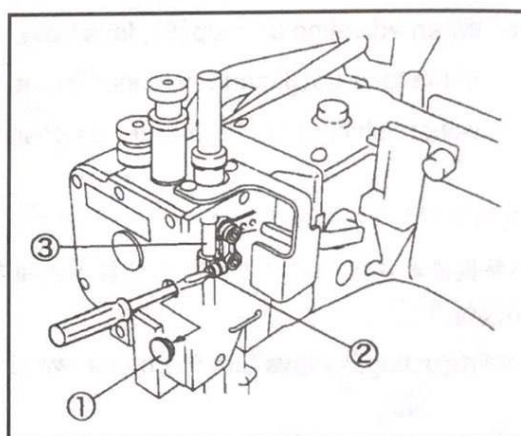
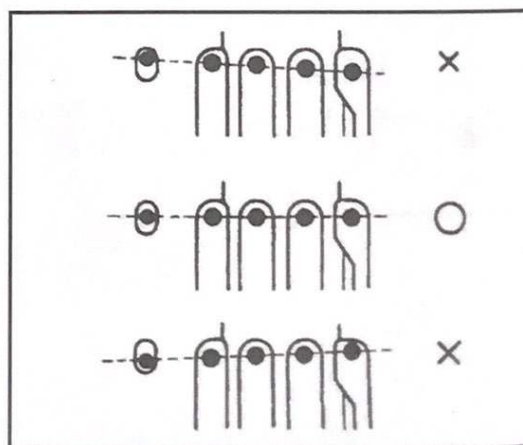

Fig.47
Fig.48
(Fig.48)
- (1) Remove the seal plug ①.(Fig.47)
- (2) Loosen the screw ②.
- (3) Move the needle bar ③ up or down to adjust the height. Check the alignment in Fig. 48.
- (4) Tighten the screw ② ssecruely.
- (5) Reset the seal plug ①.